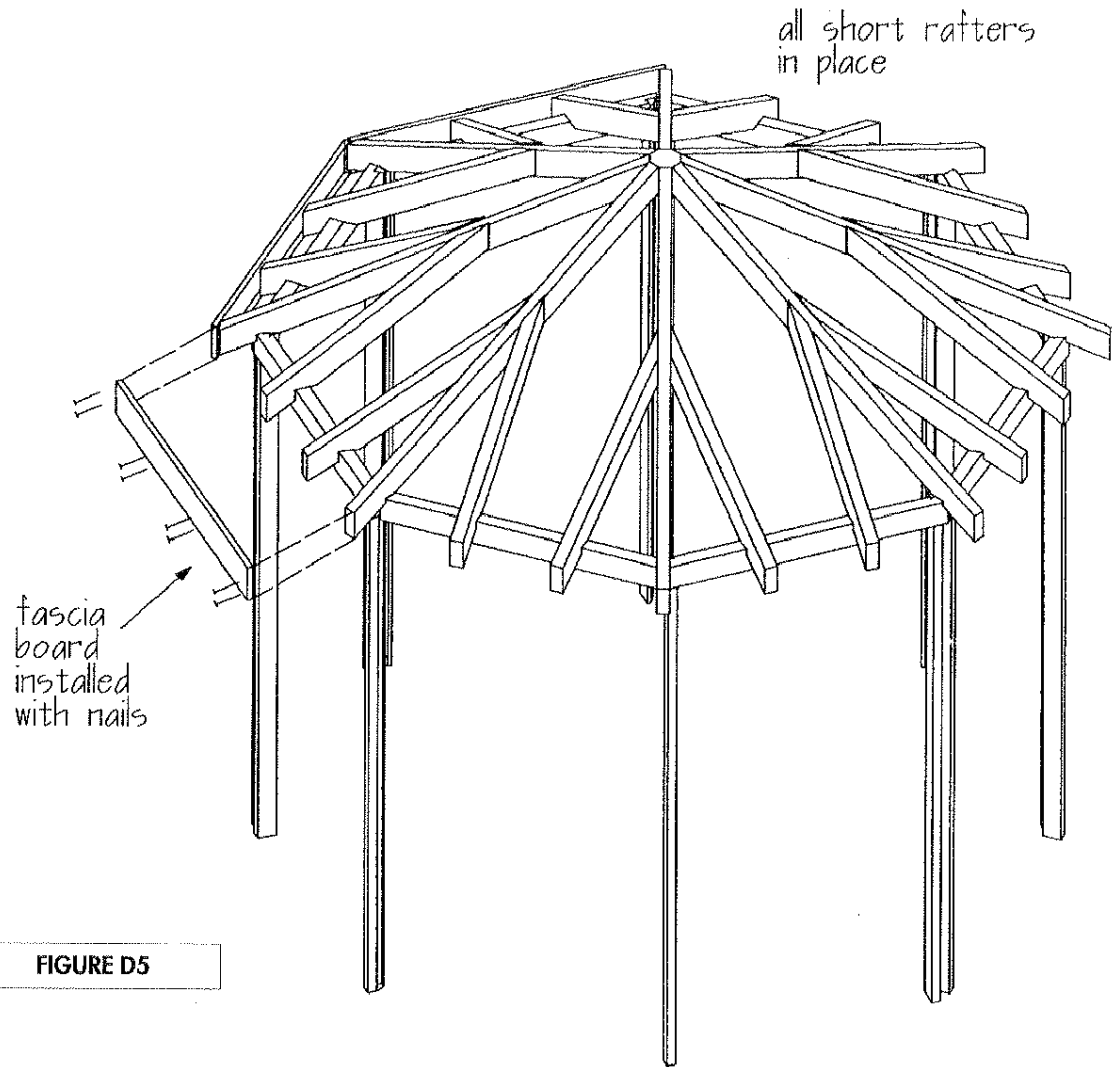

FIGURE D5
- The 1x4 fascia boards run horizontally from one long rafter to the next, as shown in **Figure D5**.